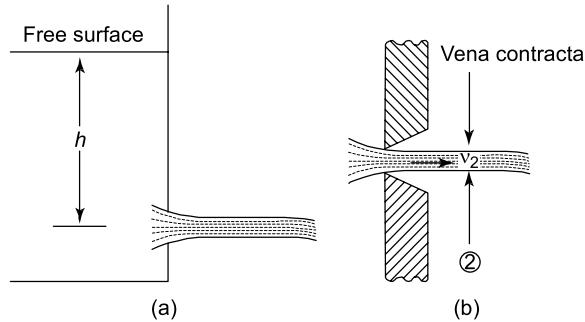

Figure 23.13
Consider the flow of a liquid through a small orifice, as shown in Figures 23.13(a) and (b), where it can be seen that the vena contracta (VC) lies just to the right of the orifice. The cross-sectional area of the fluid is the smallest here and its decrease in area from the orifice is measured by the coefficient of contraction (C_c).
- If in Figure 23.13, $h = 6$ m, $C_c = 0.8$, $C_v = 0.7$, determine the values of C_d and actual v_2 .
- If in Figure 23.13, $h = 10$ m, $C_c = 0.75$, $C_v = 0.65$, and the cross-sectional area is 1.5×10^{-3} m², determine the discharge and the actual velocity v_2 .